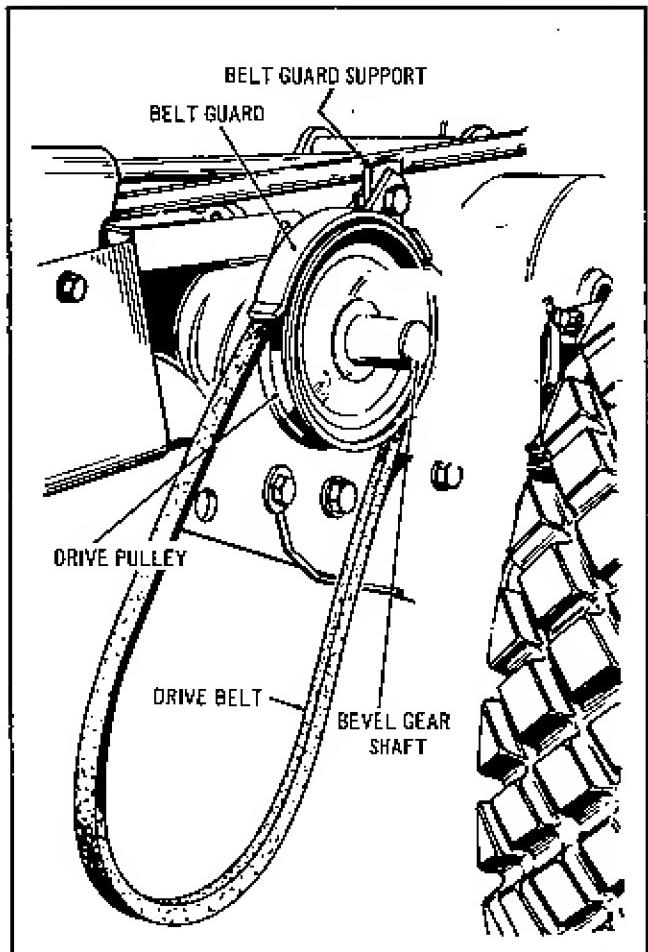
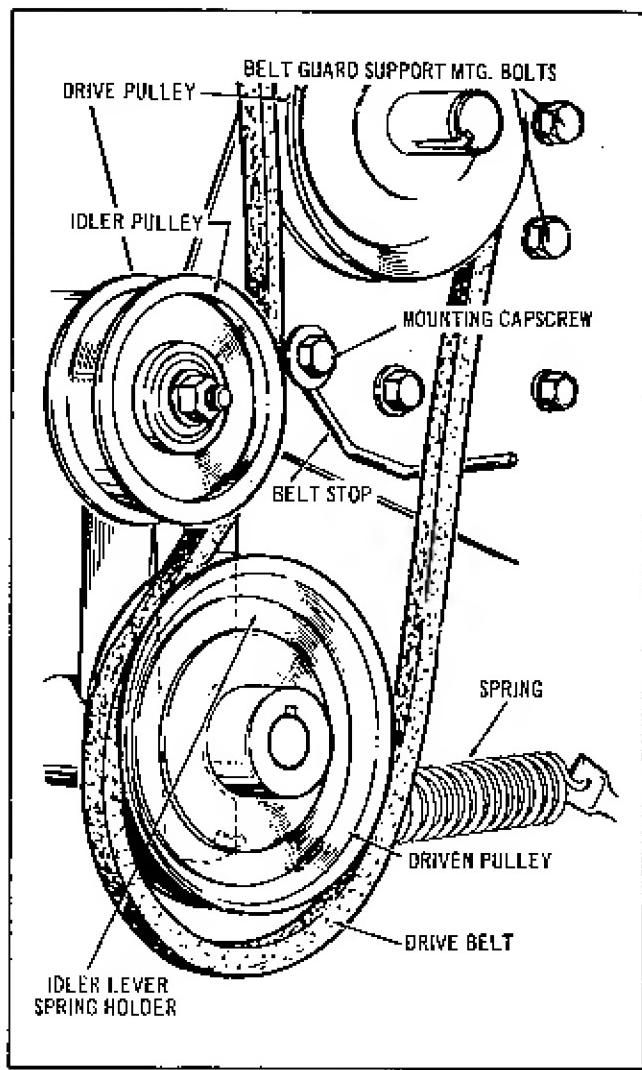

FIGURE 1
FIGURE 5
1. Mount Drive Pulley to Shaft of Bevel Gear Assembly See Figure 1 , and secure in place with Key and Set Screw. Hub of Drive Pulley is to face inward. Place Drive Belt on Drive Pulley and mount Belt Guard Support to inside surface of Side Plate nearest Drive Pulley. See Figure 5 for Mounting Bolt location. Attach the Belt Guard to the Guard Support as shown in Figure 1. Allow approximately $3/16"$ clearance between Belt and Guard.
5. Remove Front Hex. Cap Screw from Pull Bar. Replace with stud 157273 provided. Short end inserted. Slip on Handle Assembly and tighten with Hex. HeadLock Nut to permit free movement of handle. Mount "V" Belt in place on driven pulley as shown in Figure 5 and attach spring to hole provided in the bottom of the Bracket Assembly. Hook other end of the spring to the Handle Assembly. Mount Belt Stop as shown with $3/8"$ Bolt, Flat Washer, Lock-washer, and Hex. Nut. When Implement is attached to tractor with Idler Pulley engaged, $1/8"$ clearance between Belt Stop and back of "V" Belt is required. NOTE: "V" Belt runs under Idler Pulley. See Figure 5.